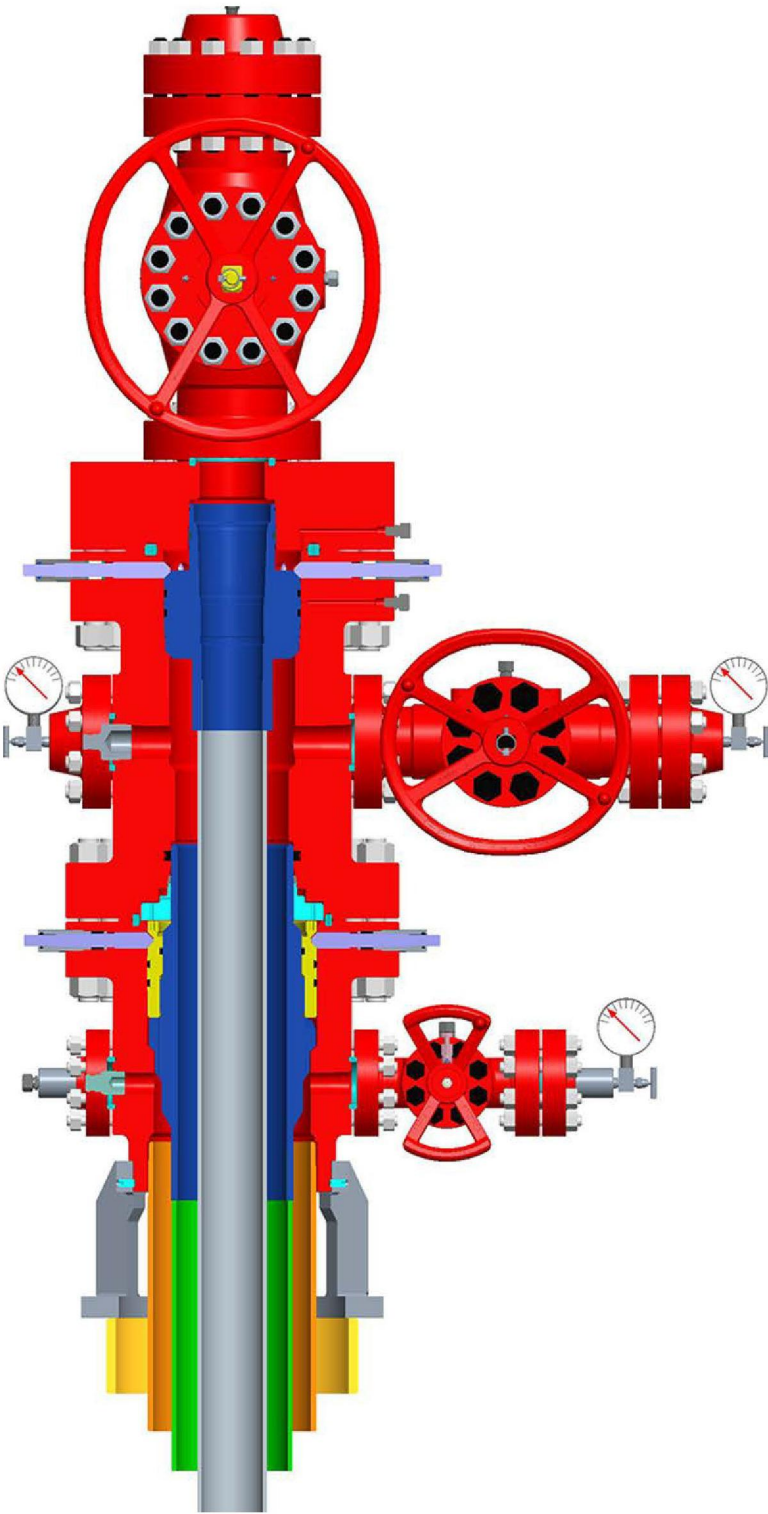

Figure 36
8. Slowly lower the tubing head adapter and Christmas tree (consisting of one master valve and blind flange) over the casing hanger extended neck while keeping the tubing head adapter square to the tubing head. See Figure 36 for the completed assembly.